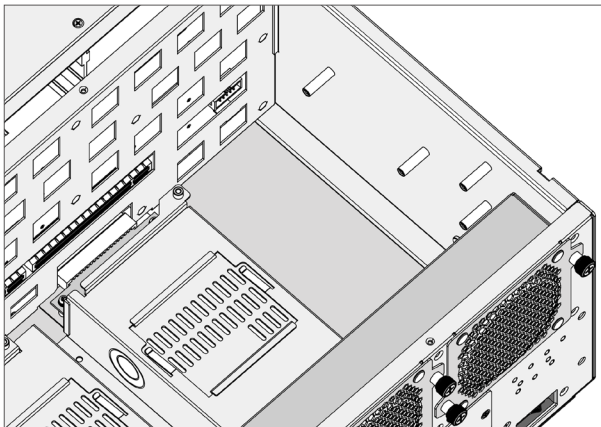

Figure B-8, Removing the Cover
1. Loosen the screws and remove the cover from the ARC-7124 enclosure, as shown in Figure B-8.